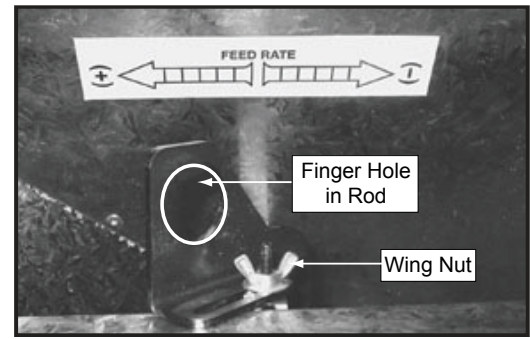

Figure 9.2
1. Loosen the wing nut. **Figure 9.2.**